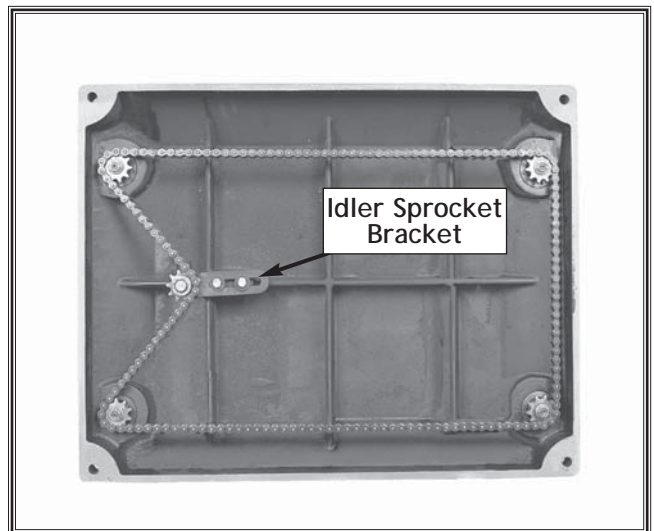
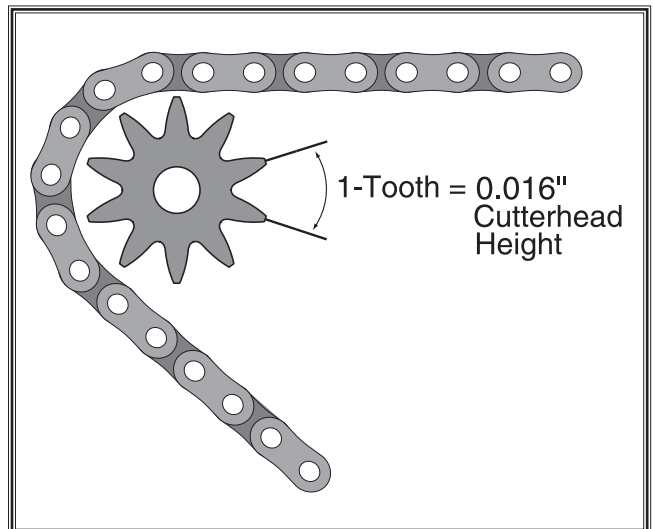

Figure 16. Underside of planer table.
Figure 17. Sprocket tooth-to-height ratio.
NOTE : The underside of the table has five sprockets and a chain. The four corner sprockets control cutterhead casting height, and the fifth sprocket (idler sprocket) controls chain tension. See Figure 16.
1. Loosen the two bolts on the idler sprocket bracket (as shown in Figure 16) to loosen the chain so that each sprocket can be rotated on its own. See Figure 17.
NOTE: As viewed from the underside of planer, moving the sprockets clockwise lowers the cutterhead casting and moving counter-clockwise raises the casting. Each tooth on the corner sprockets equals 0.016" of vertical movement when the sprockets are turned. See **Figure 17**.